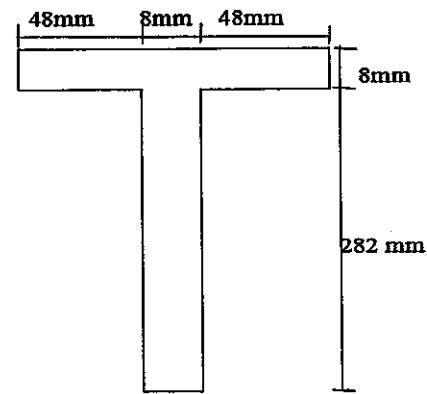

Figure B2/ Rajah B2
A T-beam with cross-section as shown in **Figure B2** is carrying a shear force of 3000 N.
- CLO2 C3 (c) Based on **Figure B2**: